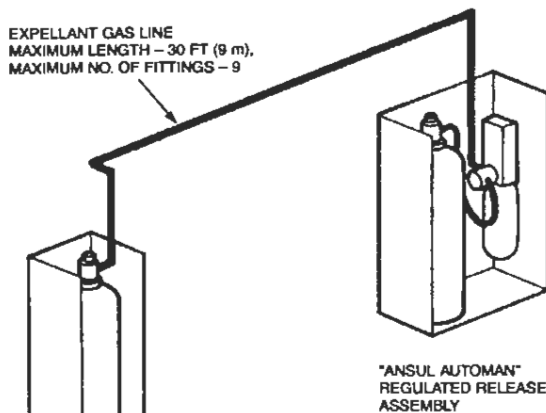

FIGURE 103
1. The expellant gas line is installed from the regulated release mechanism in double, three, and multiple-tank systems, and from the regulated actuator assembly in multiple-tank systems. The expellant gas line is the piping and/or hose between the regulator and the tank-enclosure/tank-bracket assembly. The total length of the expellant gas line from the regulated release mechanism or each regulated actuator assembly **must not exceed 30 ft (9 m)** when using a "double-tank" cartridge, an LT-A-101-30 Cartridge, or a 101-30 Cartridge. See Figures 103 and 104.